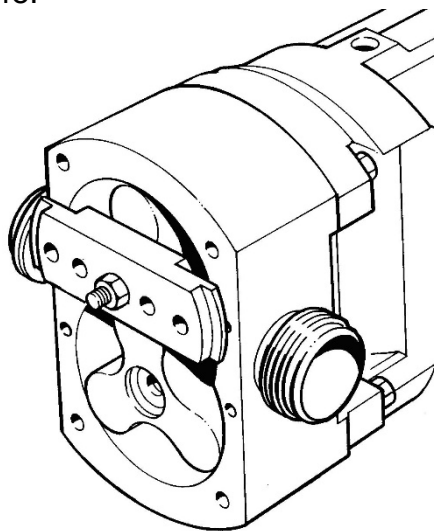

Fig 48 Rotor Clamping Tool Fitment
- Clamp one rotor (2.01) to shaft (5.01 or 5.02) using tool and associated stud and nut see Fig 48.
- Lubricate retainers' (53) with oil and install to shafts (5.01 and 5.02).
- Clamp one rotor (2.01) to shaft (5.01 or 5.02) using tool and associated stud and nut, see Fig 48, ensuring that two of the screws in retainer (2.05) are visible through holes in tool.